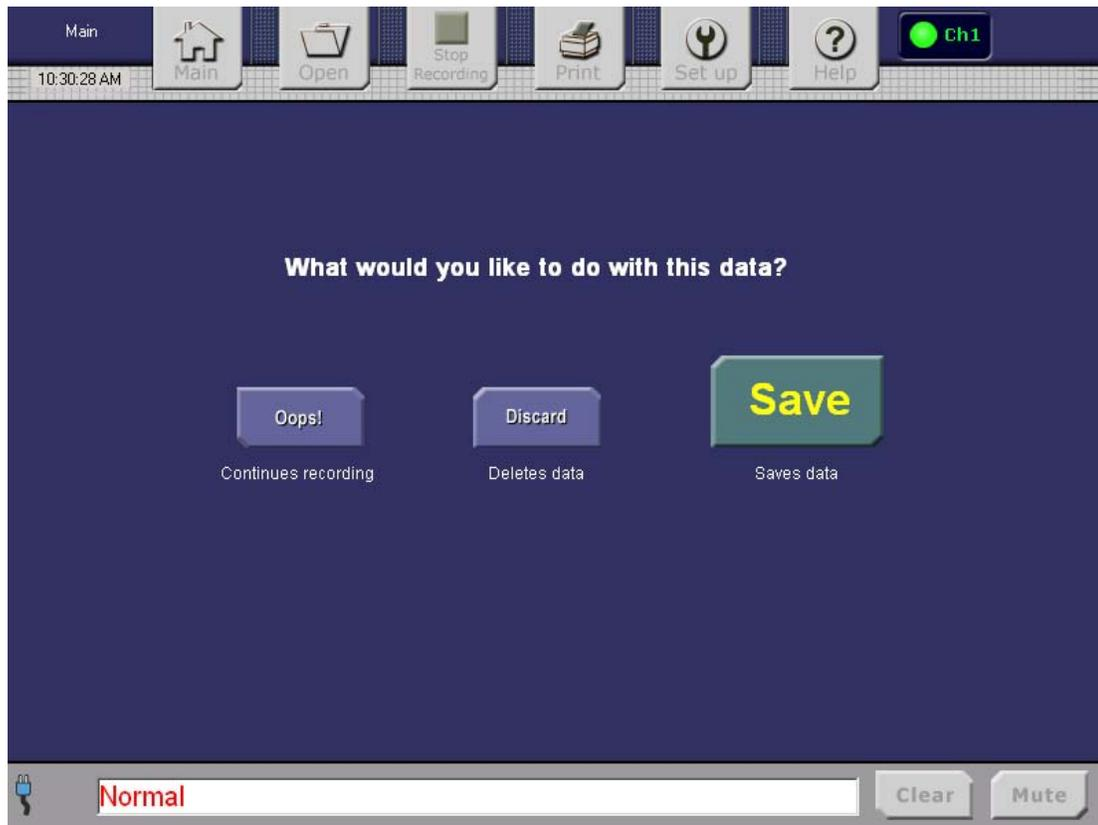
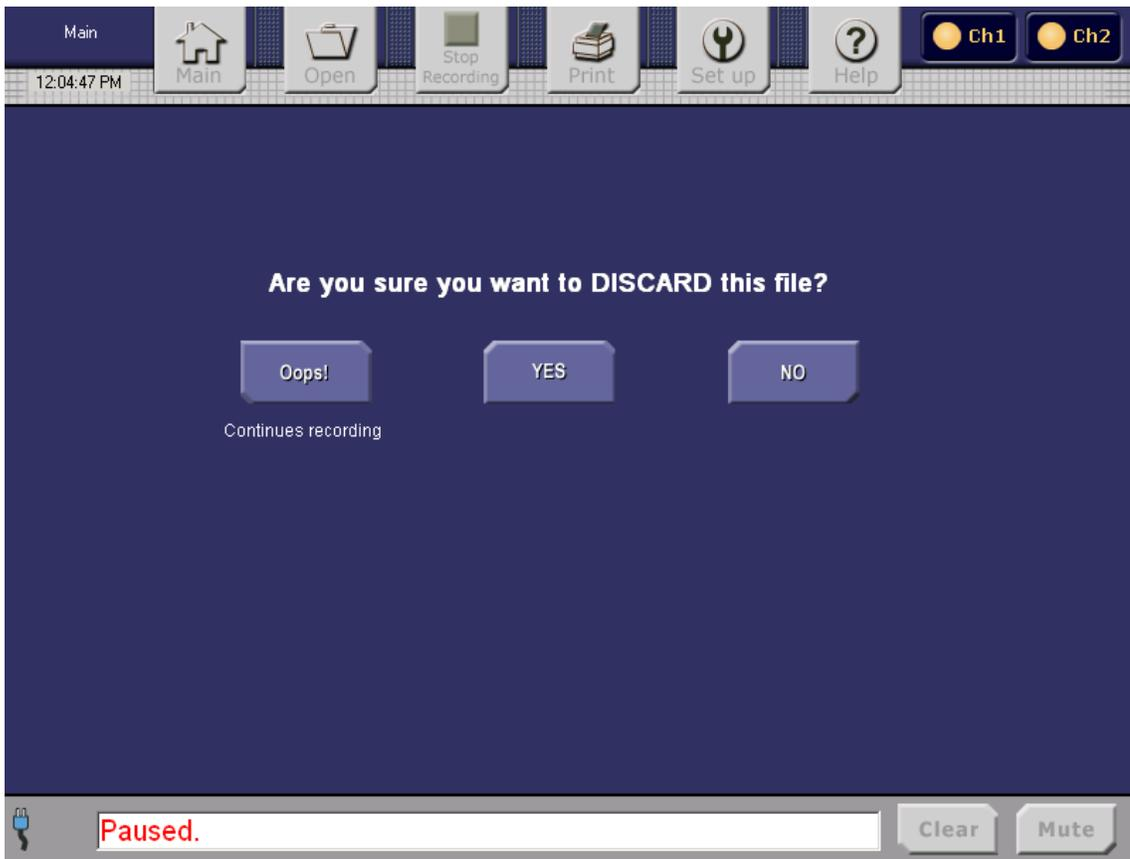

Figure 33. Oops Save Discard Screen, Step 1
Figure 37. Discard Confirmation Screen
To stop recording data, tap the Control Bar **Stop Recording** button. The **Oops Save Discard** screen is displayed, as shown in Figure 33.
Step 1: From the **Oops Save Discard** screen, tap **Discard** to proceed to the **Discard Confirmation** screen (Figure 37) for a confirmation to delete the data.
Tapping the **Return** button will return to the **Oops Save Discard** screen (Figure 33).
If you select **Discard** from the **Oops Save Discard** screen (Figure 33), you will be prompted to confirm the deletion of the temporary log files. Figure 37 shows the **Discard Confirmation** screen.